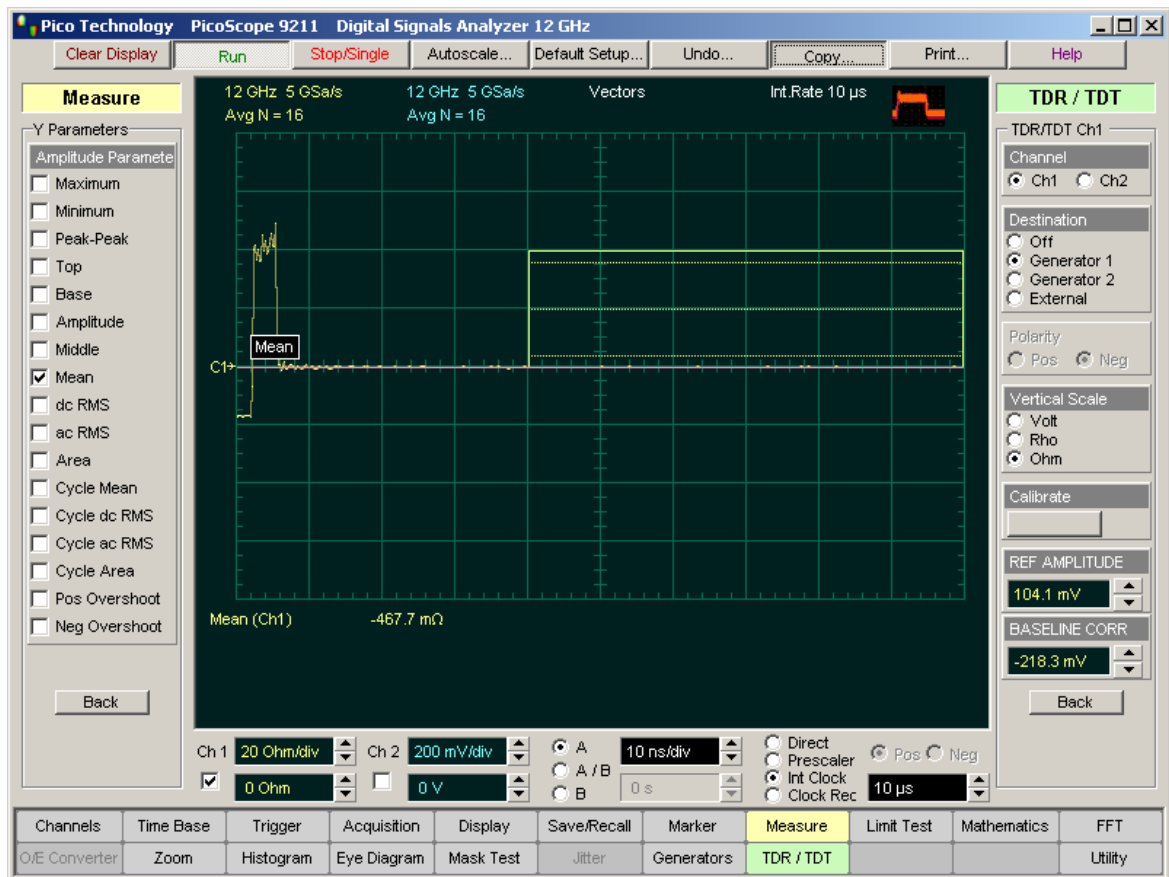

Figure 5
6. Click Ohm in the Vertical Scale menu. See Figure 5.
Fig. 5 shows that the ohm value is near 0 ohms when transmission line is shorted. The Mean measurement shows -467.7 mohm.